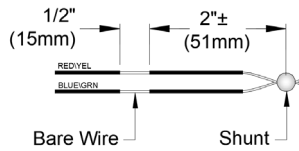

Figure 4 – Strip GCA Wire Leads
- With the GCA wire lead shunts intact, strip about ½ in. (15mm) of insulation from the red and blue leads approximately 2 in. (51mm) back from the shunt (Figure 4).